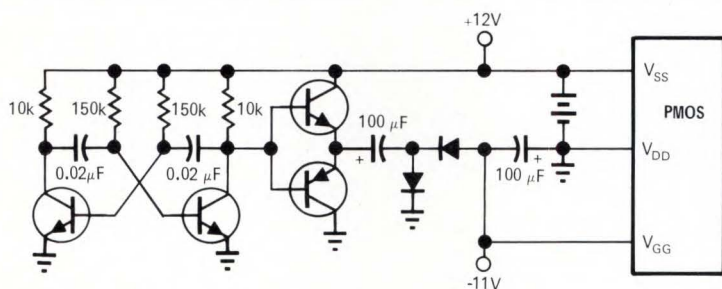

Fig. 1—**Bipolar inverter** is inexpensive, compact and allows portable operation of MOS logic devices from a single battery supply.
**Bipolar Inverter.** The multivibrator circuit shown in Fig. 1 draws 1.2 mA from the battery in standby operation and easily supplies 12 mA from its  $V_{GG}$  terminal. With a +12V electrical system, it generates the necessary -11V. This circuit is also suitable for supplying dual-voltage power to op amps in automotive equipment.
Fig. 2—**CMOS inverter** is more compact than the bipolar design in Fig. 1 but has a lower current capability, as shown in the regulation curves. Buffer stages can be used to increase output current of this design.